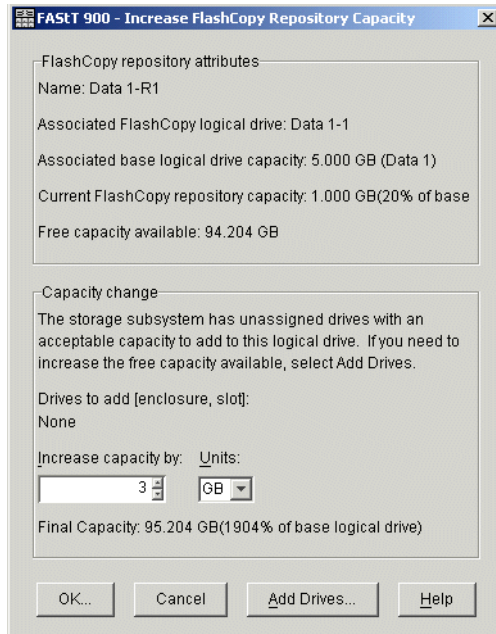

Figure 7-42 Increase FlashCopy Repository Capacity
- Increase FlashCopy repository logical drive capacity using free capacity on the array of the FlashCopy repository logical drive (Figure 7-42 on page 230).
- ii. At the Increase FlashCopy Repository Capacity window (Figure 7-42 on page 230), and select **Add Drives**.